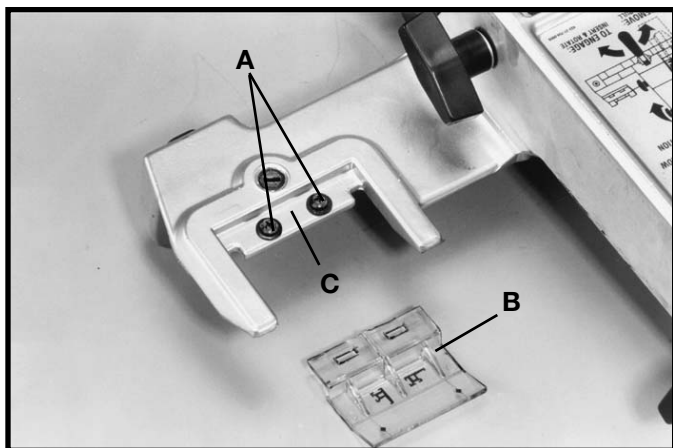

Fig. 68
1. Remove two screws and flat washers (A) Fig. 68, and assemble the cursor (B) to the Unifence body (C). Replace the two screws and flat washers (A).